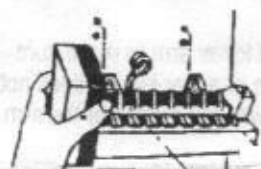
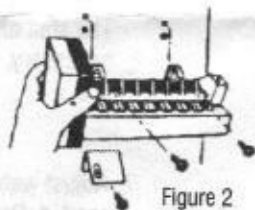

Figure 1
Figure 2
1. Remove defective icemaker from the freezer. Unplug Harness, check existing harness to this kit to make sure you have the correct wiring harness. The icemaker may have two upper screws and one lower mounting screw (see Figure 1) or two mounting clips with one lower mounting screw (see Figure 2). If you do not have the correct harness, you will need a different icemaker kit. Please contact your dealer for the correct icemaker.